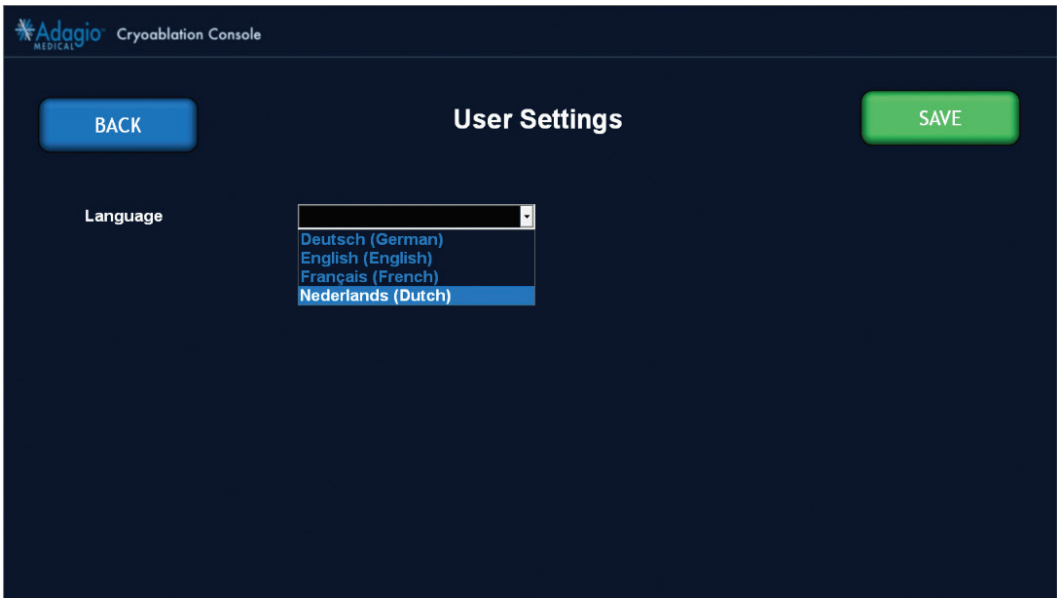

Figure 10 – Language Setting for System User Interface Screen Image
- Language Setting for System User Interface - Press User Settings (gear icon) in the upper right corner of Main Menu (Figure 9), the User Setting screen (Figure 10) will appear. Select the desired language from the dropdown list and press SAVE button to save the selection. Press Back button to return to Main Menu.